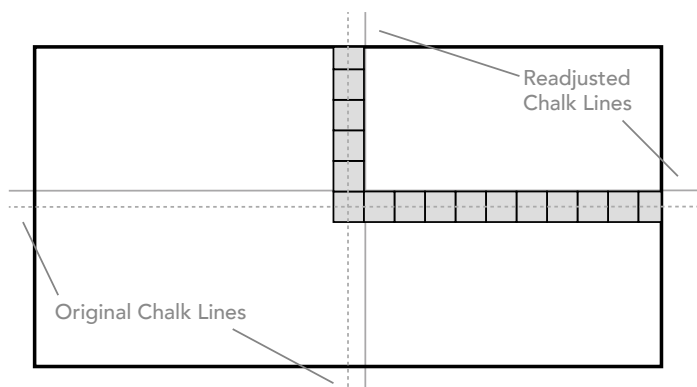

FIGURE 2B Adjust the layout to eliminate narrow pieces at the ends
- Adjust the chalk lines if necessary to avoid narrow pieces at the side walls (Fig. 2B).